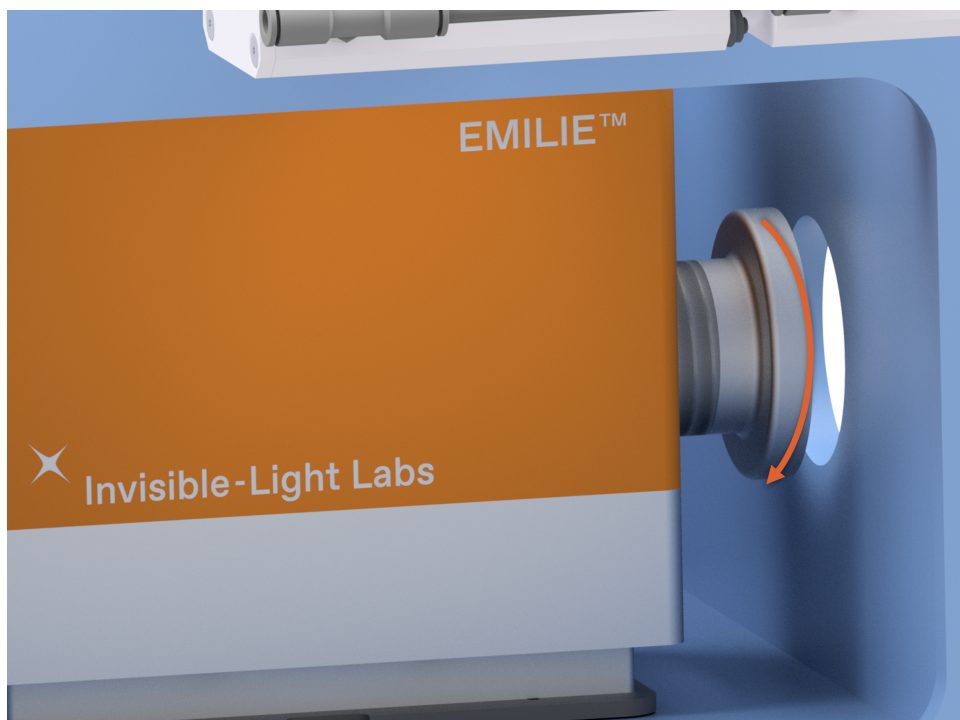

Figure 12: The flange tube needs to be screwed out until it gently touches the FTIR port
7. Turn to extend the flange to the right until it gently touches the port of the FTIR (see Figure 12).
9. Turn to extend the flange the right until it gently touches the port of the FTIR (see Figure 12).